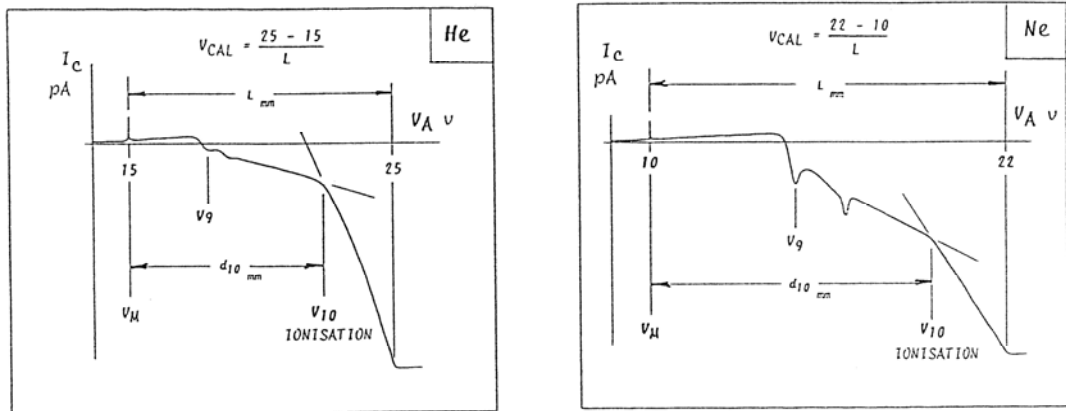

Figure 7: Ionization scan for positive ions (helium is on the left, neon is on the right).
13. Now you will collect ionized (positive) helium or neon atoms, rather than electrons. To do this you will change the sign of the bias on the collector ring. To do this, simply reverse the 1.5 volt battery in its holder. Set the MIN and MAX limits as shown on the left half of Figure 7. Perform the scan and print the plots. Note the MIN and MAX values on your plots, and determine the times and write down the times of any peaks you see.
7. Determination of ionization energies: For helium and neon you took a scan where you detected positive ions (as shown in Figure 7). Production of positive ions occurs through ionization. Find the feature labeled  $V_{I0}$  in each of your positive ion plots, and use the above formula to determine the ionization energy in helium and neon.